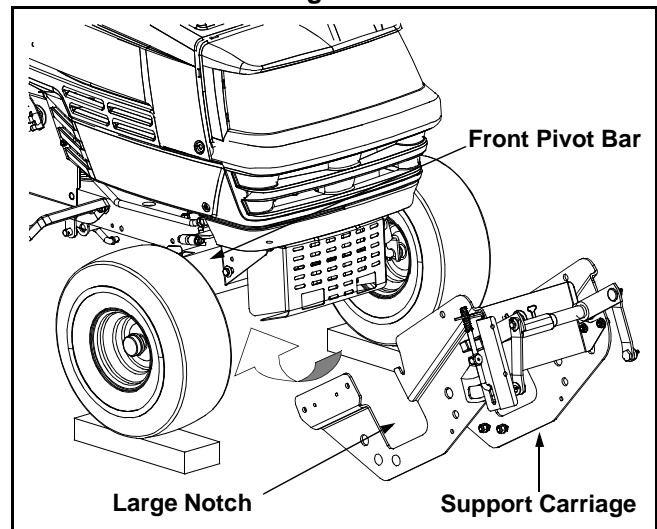

Figure 5
4. Place the support carriage assembly between the tractor's front tires so that the large notch on both sides of the support carriage straddles the tractor's front pivot bar. See Figure 5.